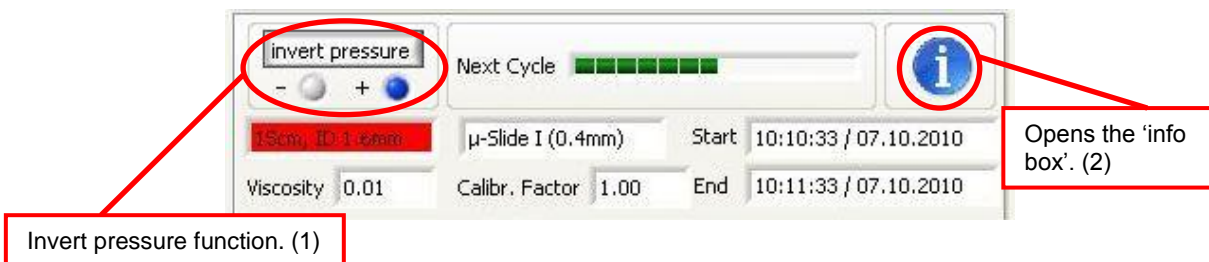

Figure 21: Overview and Information
- When you press the 'Save' button, after Steps 1-4, the new cycle list will be transferred to the main PumpControl menu. You can view the cycle list in the Cycle Overview table (see Figure 19) or by selecting the information box, as shown in section 4.2 (control 2 in Figure 21).
At the bottom of the 'Automatic Control' panel, in Figure 3, you'll find the overview and information sections like indicated in Figure 21.
In the middle of Figure 21, you'll find the horizontal progress bar, indicating the start of the next cycle. On the lower right-hand side, the experiment start and finishing times are shown. Next to this, the 'Fluidic Unit Setup' is displayed and shows the selected μ -Slide, the Perfusion Set, the viscosity, and the calibration factor.
In this panel, you'll also find two functional buttons: 'invert pressure' and 'information'. With the 'invert pressure' button (control 1 in Figure 21), you can invert the airflow by switching between the positive and negative air pressure. Activating the 'information' button (control 2 in Figure 21), allows you to reach an overview table that lists the cycles you've created. In that menu, the active cycle is highlighted. More details can be found in section 4.2.